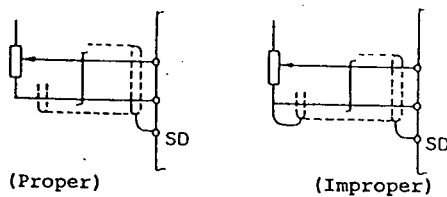

Fig. 4-16 Connection I of shield sheath
- ① Connect the outer sheath of the shield cable to the terminal SD of the servo amplifier connector, and be sure to open the other end. Refer to Fig. 4-16 and 4-17.